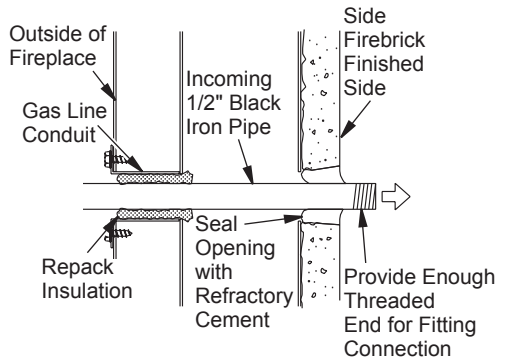

Figure 27 - Gas Line Installation
3. Run a 1/2" black iron gas line into fireplace through the rear at gas line conduit sleeve (if using a raised platform, add height). Provide sufficient gas line into fireplace chamber for fitting connection (see Figure 27).